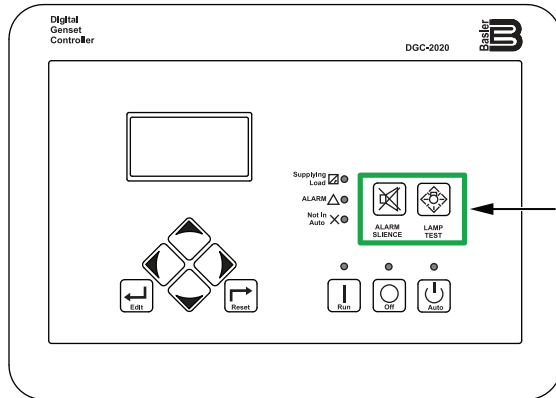

Figure 76. Digital Controller (Alarm Silence And Lamp Test Buttons)
1. Press and hold the **Alarm Silence button** and the **Lamp Test button** (Figure 76) simultaneously for 5 seconds.